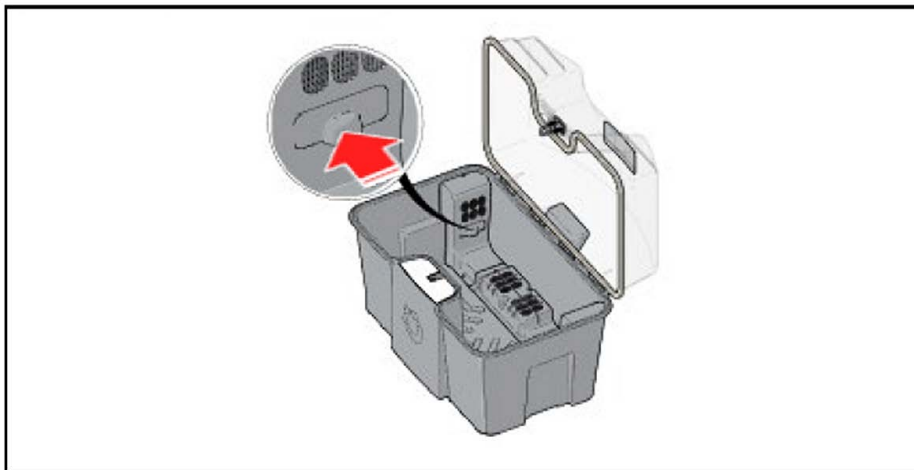

Figure 20 Filter drawer insertion
3. Insert a new filter into the filter drawer and slide the drawer back into its slot (Figure 20).